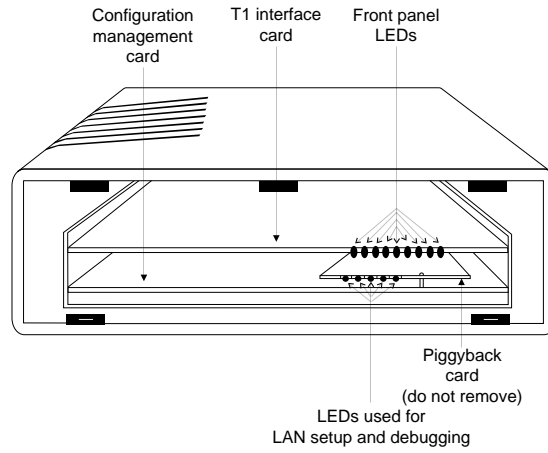

Figure 2-5
5. Remove the boards by pulling them out one at a time. See Figure 2-5.